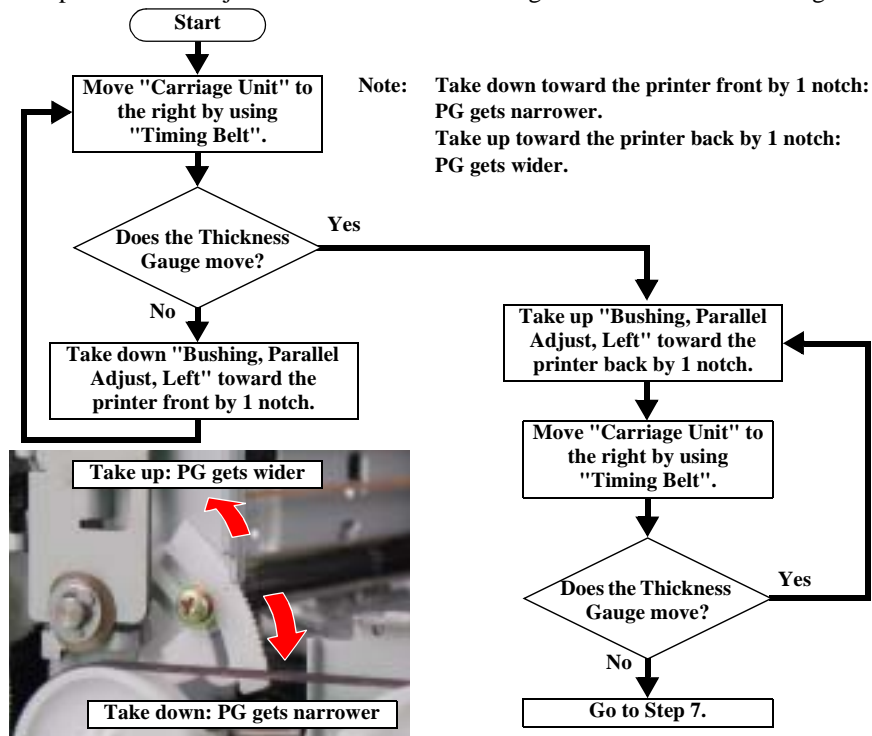

Figure 3-8. PG Adjustment (Left Side)
6. Implement PG Adjustment on the left according to the flowchart in the Figure 3-8.